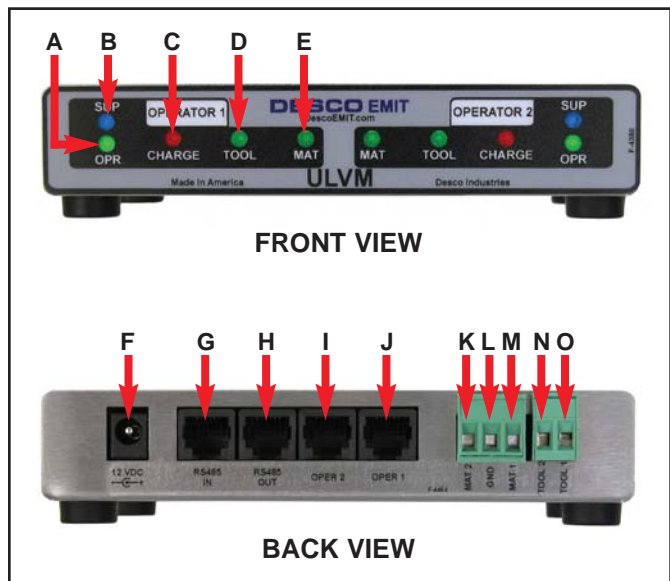

Figure 2. Ultra Low Voltage Monitor features and components
ULTRA LOW VOLTAGE MONITOR (See Figure 2)
- V. Attach the tinned wire ends of the mat cords to their appropriate screw terminal block connection located on the back of the unit (See Figures 2 and 4). The white cord is for OPERATOR 1 and the black cord is for OPERATOR 2.